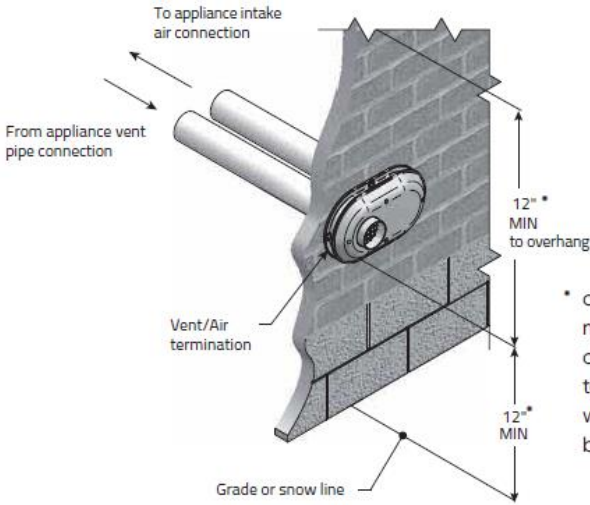

Figure 6a – Typical Side Wall Termination
The vent termination **must** maintain all termination clearances and be installed in accordance with local building codes and/or The National Fuel Gas Code ANSI Z223.1 (Latest Edition) or CGA/CAN B149 Installation Code (see Figure 6a).
When locating the penetration of the vent and air pipe, ensure the termination is properly oriented as shown in Figure 6b (pg 18) and ensure that it maintains minimum clearance requirements as shown in Figure 6a (pg 18). For multiple vent terminations, ensure that a minimum clearance of 12 in (30 cm) is maintained between edge of air inlet and adjacent vent outlet and that all vent pipes and air inlets terminate at the same height to avoid the recirculation of flue gases and the possibility of causing severe personal injury, death, or substantial property damage (see Figure 6d, pg 18).
2. Slide both the intake and vent pipe through the holes. Solvent weld both pipes to the base of the vent termination kit (see Figure 6a).